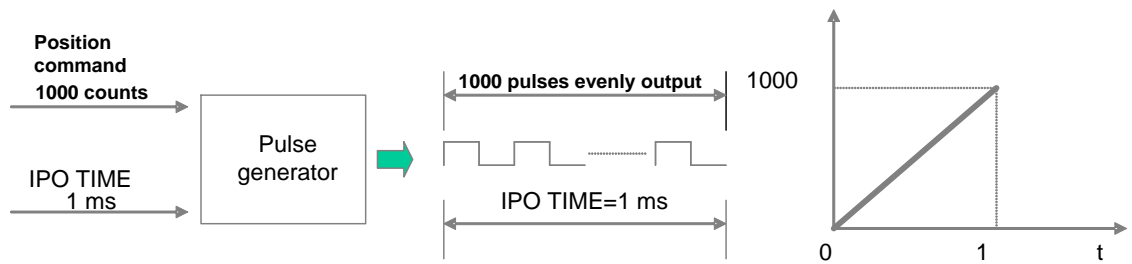
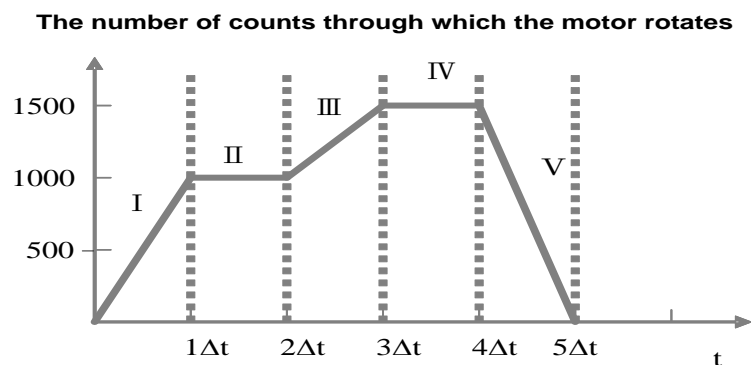

Fig.1-6 Diagram of Pulse generator
Fig.1-7 Diagram of Pulse generator
Note 1: For the PGE, please refer to Fig. 1-6 and Fig. 1-7.
(II) For the principle of the pulse generator, please refer to Fig. 1-6 and Fig. 1-7.